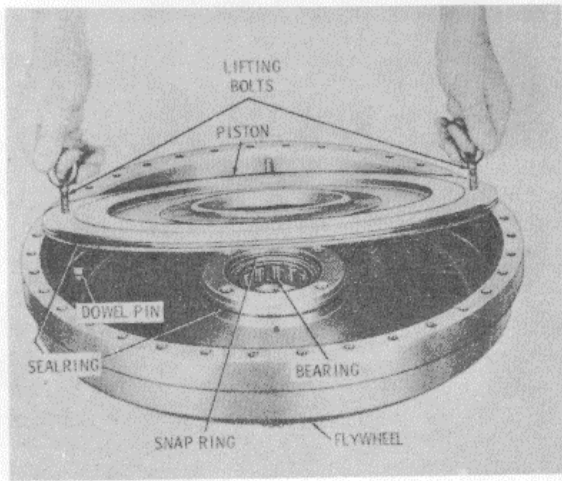

Figure 15-178. Installing Lockup Clutch Piston
5. Install the seal ring onto the hub of the hub of the torque converter drive housing (Figure 15-178). Install the seal ring onto the piston. Install the piston, engaging the recesses in the piston with four dowel pins in the piston housing.